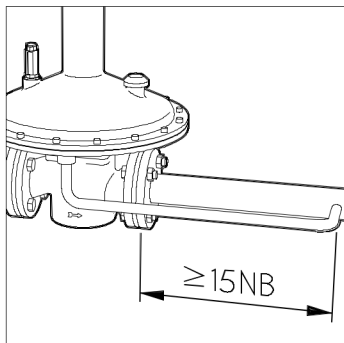

Fig. 2.
- 2) Connect the impulse line ($\frac{1}{2}$ "), using a jointing compound approved to national standards, and lead to a point downstream not less than fifteen times the nominal pipe diameter from the outlet. See Fig. 2.